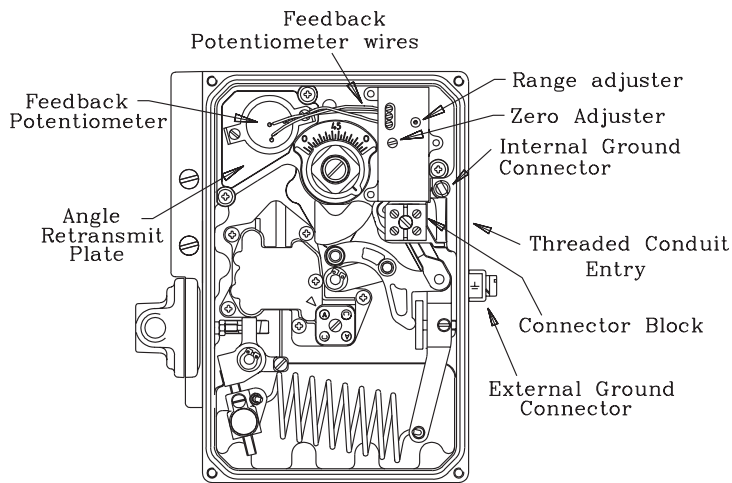

FIGURE 7. ANGLE RETRANSMIT.
4.4.2 Remove positioner cover and undo the three M4 screws retaining the red retransmit plate, as shown in figure 7. Loosen the central coupling screw sufficiently to pull the coupling complete with the retransmit assembly off the actuator connection.
6.1.2 Remove positioner cover and unscrew the three M4 screws retaining the red retransmit plate, release the two wires on the terminal block connected to the DIN plug (if fitted), as shown in figure 7, and carefully remove coupling and retransmit assembly as one unit.
6.2.2 Remove positioner cover and undo the three M4 screws retaining the red retransmit plate, release the two wires on the terminal block connected to the DIN plug (if fitted), as shown in figure 7. Loosen the central coupling screw sufficiently to carefully pull the coupling complete with the retransmit assembly off the actuator square.
6.3 Zero and Range Adjustment (refer to Figure 7).
6.4.2 Remove positioner cover and undo the three M4 screws retaining the red retransmit plate, release the two wires on the terminal block connected to the DIN plug (if fitted), as shown in figure 7. Loosen the central coupling screw sufficiently to pull the coupling complete with the retransmit assembly off the actuator connection.